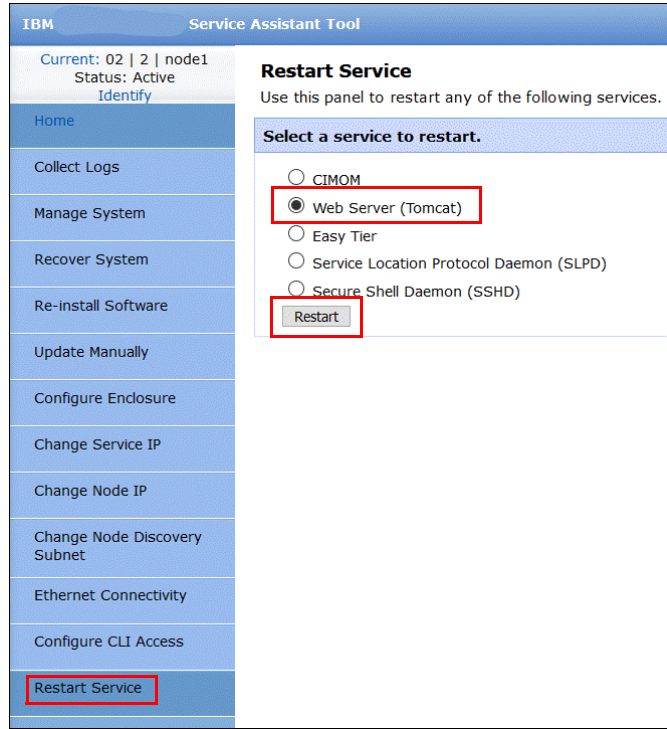

Figure 4-121 Restarting the Tomcat web server
2. After the process completes, go to **Restart Service**, as shown in Figure 4-121.